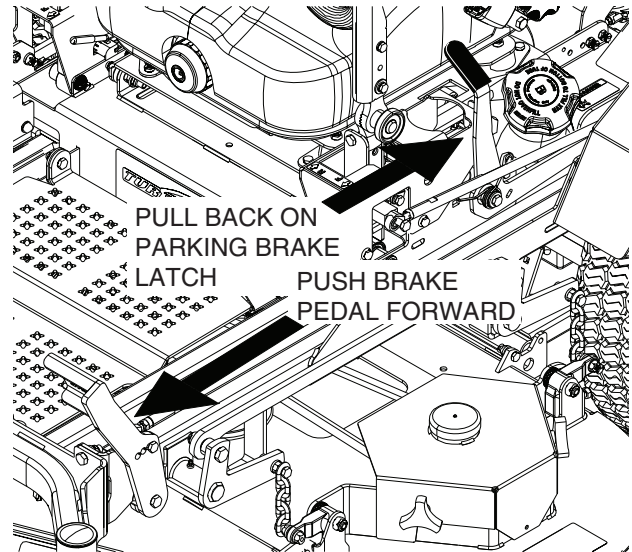

Figure 6-1. Brake Adjustment
2. Engage the parking brake. Fully depress the brake pedal and pull the parking brake lock latch back to lock the parking brake. See Figure 6-1.